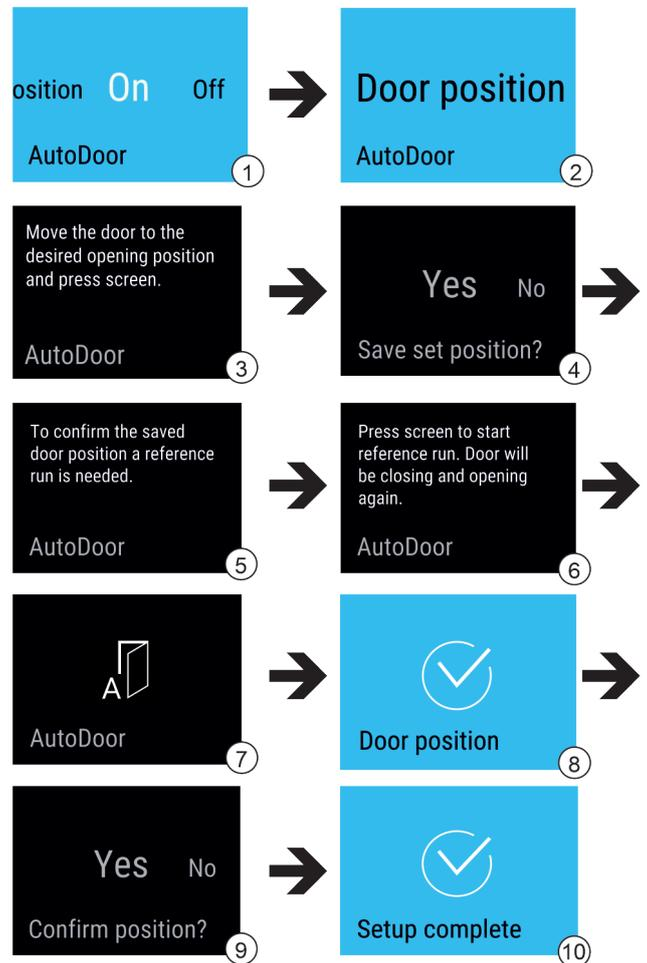

Fig. 17
- ▶ Select the AutoDoor function. Fig. 17 (1)
- ▶ Swipe the display until Door position appears. Fig. 17 (2)
- ▶ To configure the door opening angle: Open the door to at least 70°. Fig. 17 (3)
- ▶ To confirm the door opening angle: Tap the message in the display. Fig. 17 (4)
- ▶ To start the reference run: Tap the display. Fig. 17 (6)
- ▷ The display flashes. Fig. 17 (7)
- ▷ The reference run is successful: The display turns blue for 2 seconds. Fig. 17 (8)
- ▶ Confirm the door opening angle. Fig. 17 (9)
- ▷ The display turns blue. Fig. 17 (10)